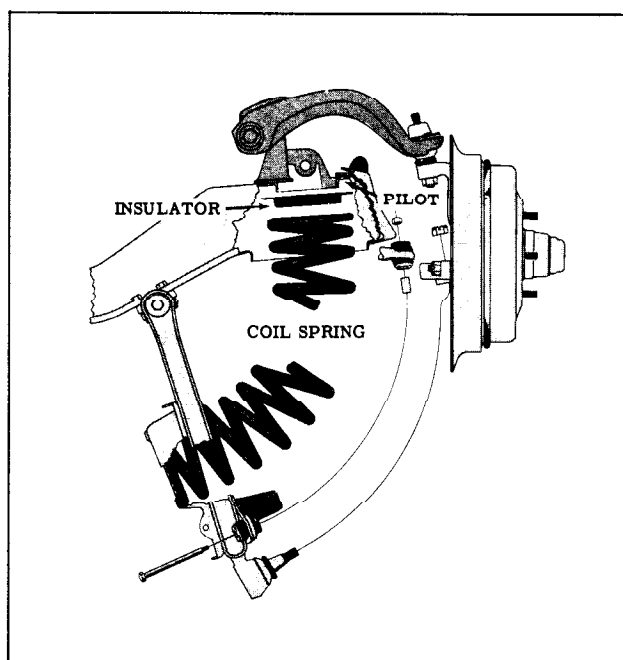

Fig. 5-14 Coil Spring Positioning
- While holding spring and insulator against pilot in frame cross member, tilt spring so it will pilot in lower control arm. (Fig. 5-14). Rotate spring so the end of the bottom coil will index with edge of hole in control arm spring seat. The coil should not cover any portion of the hole.